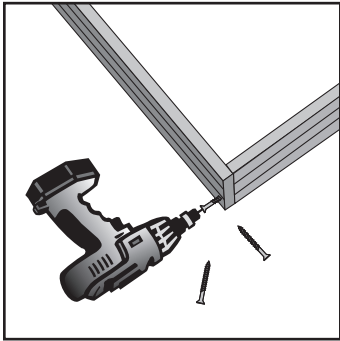
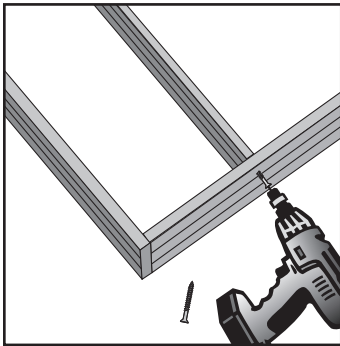

Fig. 11
Fig. 12
3. Attach and fasten jamb legs to the head jamb, using 1½" screws into the pre-drilled holes on the jamb leg. Make sure the edges of the head and side jamb line up and are even with each other. Snug screws so corners are square and tight, with no gaps (**Fig. 11 & Fig. 12**).